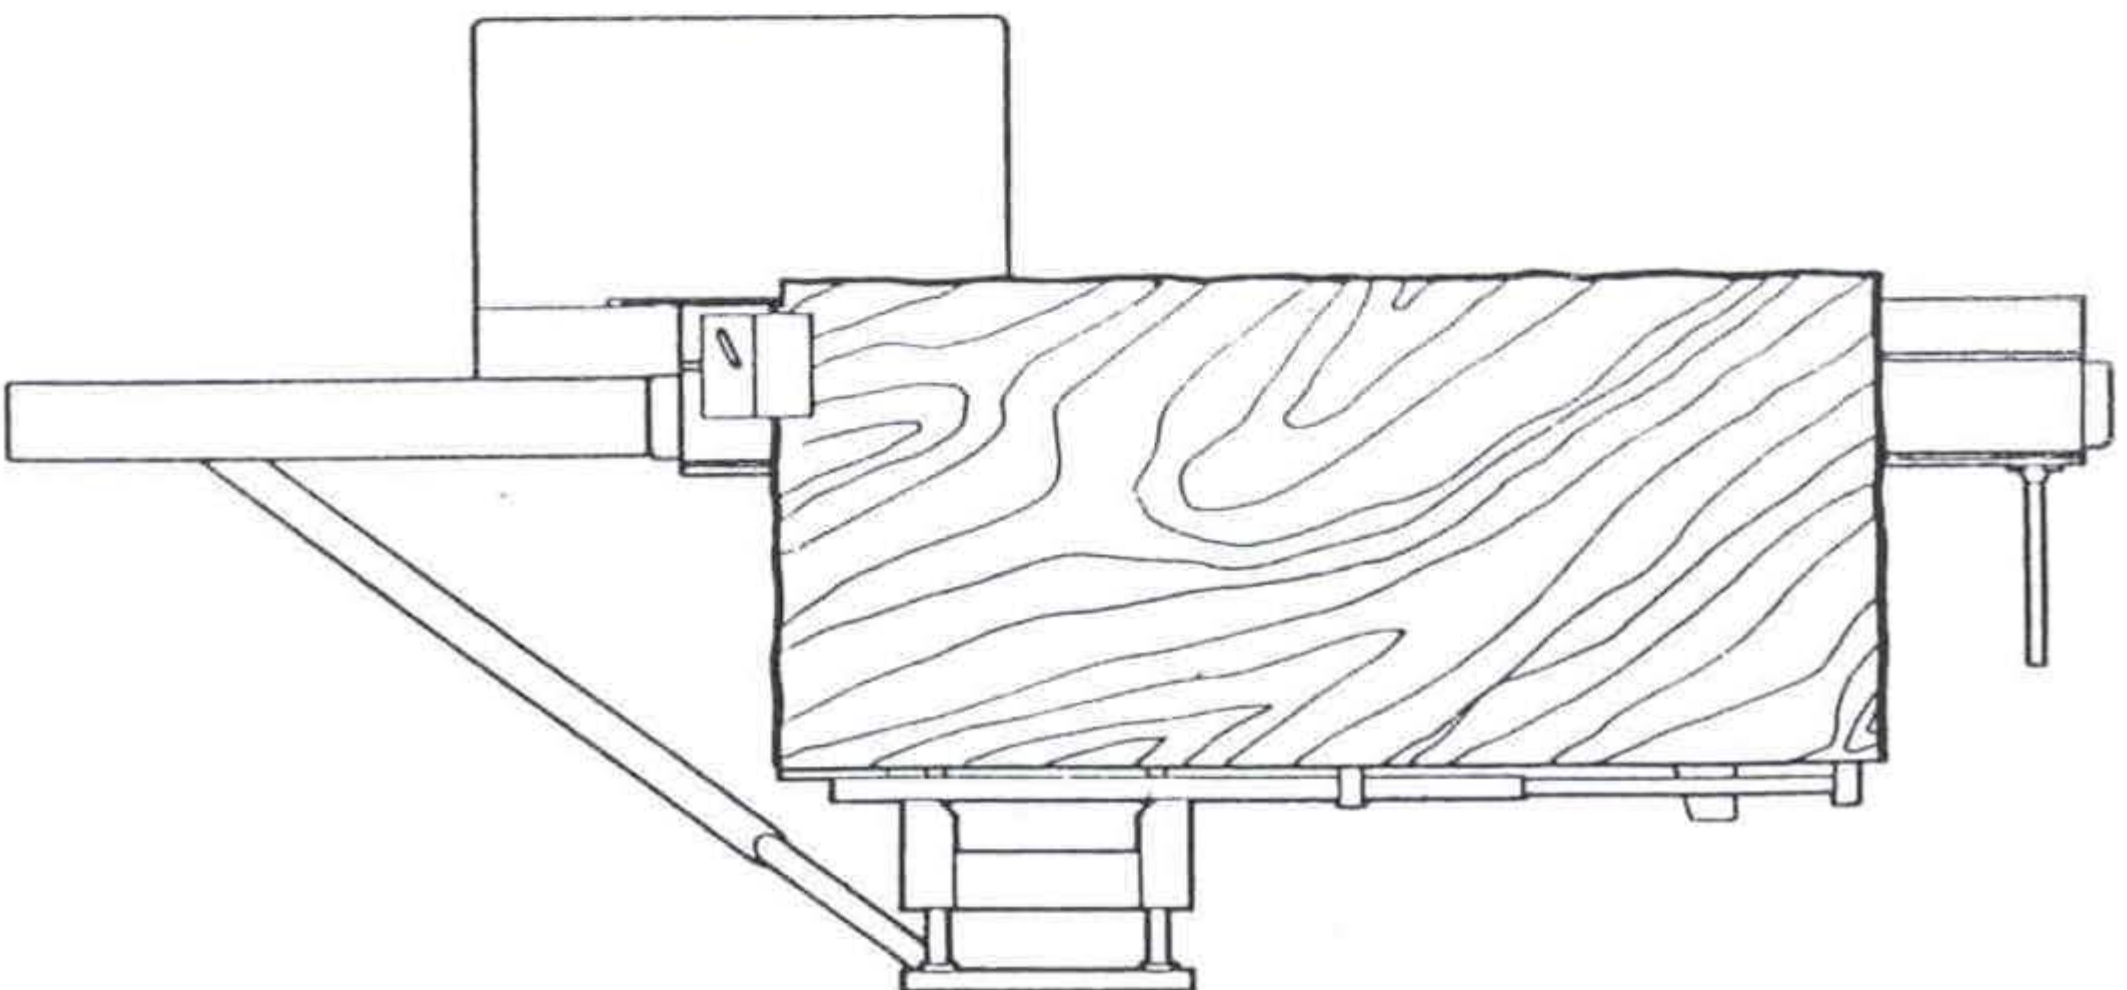

Fig. 24
- After having obtained this finished cut, the panel is set against the rip fence to make a sized and parallel cut (fig. 24). Also this cut has to be done on all the panels that have been piled awaiting to be crosscutted.